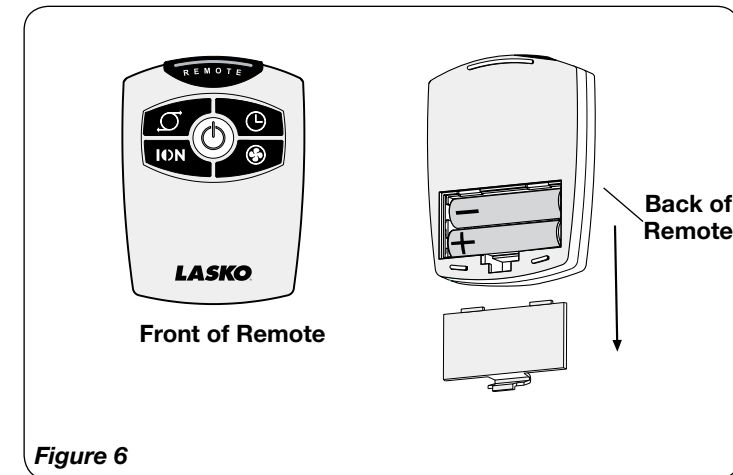

Figure 6
This Fan may be operated by the Manual Controls located on top of the unit (as shown in Figure 5) or by the Remote Control (shown in Figure 6).
REMOTE CONTROL (Figure 6)
1. Install batteries (not supplied) as shown in Figure 6. The battery is size "AAA".